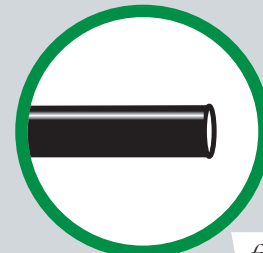

fig. 14
When cutting air lines, use a sharp knife or a hose cutter and make clean, square cuts (Fig. 14). Do not use scissors or wire cutters because these tools will deform the air line, causing it to leak around fittings. Do not cut the lines at an angle.
- a. Check the air line connection by deflating the spring and removing the line by pulling the collar against the fitting and pulling firmly on the air line. Trim 1" off the end of the air line. Be sure the cut is clean and square (see Fig. 14). Reinsert the air line into the push-to-connect fitting.